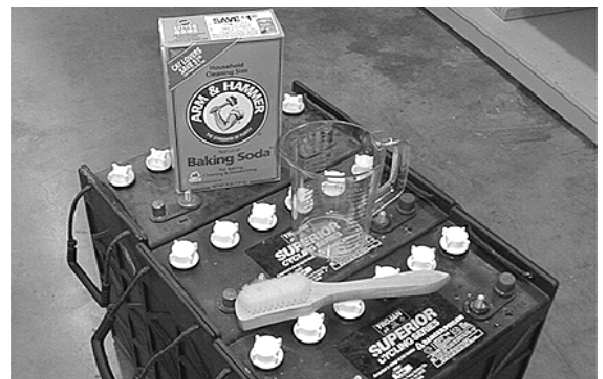

FIG. 33
2. Clean the batteries to prevent battery corrosion. Use a scrub brush with a mixture of baking soda and water (Figure 33).